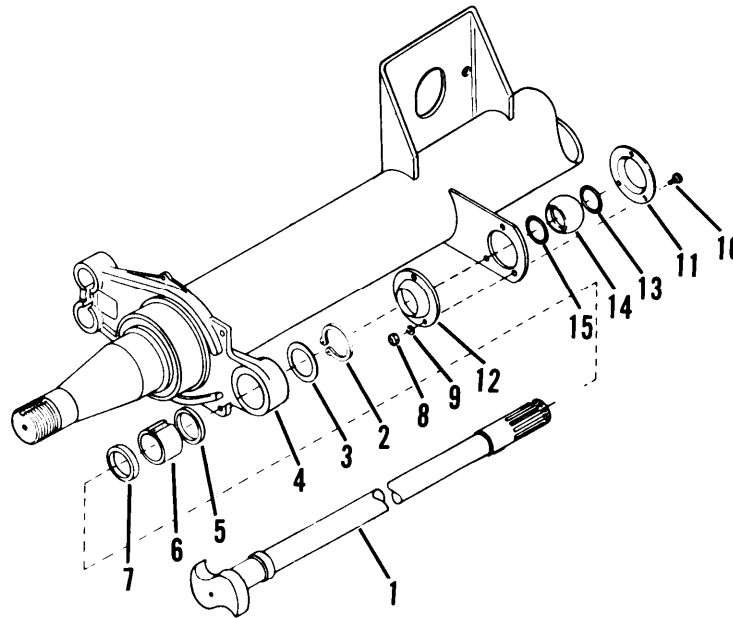

Figure 4-40. Brake Camshaft
- (1) Support axle and frame on each side.
- (2) Remove snap ring (2, fig. 4-40) and washer (3) from camshaft (1).
- (3) Remove camshaft (1).
- (4) Remove seal (5), bushing (6) and seal (7).
- (5) Remove four nuts (8), washers (9) and screws (10) when removing the M871 camshaft. Remove three nuts (8), washers (9) and screws (10) when removing the M871A1 camshaft.
- (1) Install preformed packing (15, fig. 4-40), bushing (14), preformed packing (13), retainer (12) and retainer (11).
- (2) Install four screws (10), washers (9) and nuts (8) when installing the M871 camshaft. Install three screws (10), washers (9) and nuts (8) when installing the M871A1 camshaft.
- (3) Install seal (7), bushing (6) and seal (5).
- (4) Slide camshaft (1) halfway through spider (4). Install washer (3) and snap ring (2), then slide camshaft (1) the rest of the way through spider (4).
- (5) Install snap ring (2) into proper position.
- (6) Install slack adjuster (para. 4-41).
- (7) Install brake shoes (para. 4-42).
- (8) Install brake drum and hub (para. 4-47).
- (9) Install tires and wheels (para. 4-45).
- (10) Close drain cocks.
- (11) Adjust slack adjusters (para. 4-30).